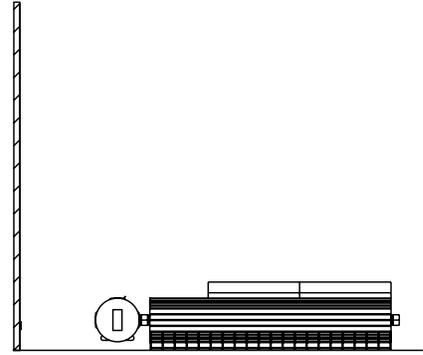

FIGURE 6 - FLOOR MOUNTING DIAGRAM
Step 1: Position heater face down on the floor with terminal box towards the wall (Figure 6).